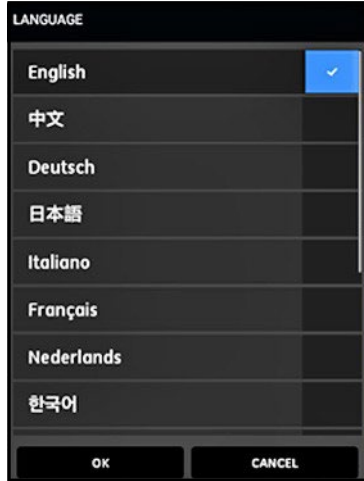

Figure 60: PT900 APP Language Options
- At the screen shown in Figure 60 below, select the desired language for the APP and click OK.